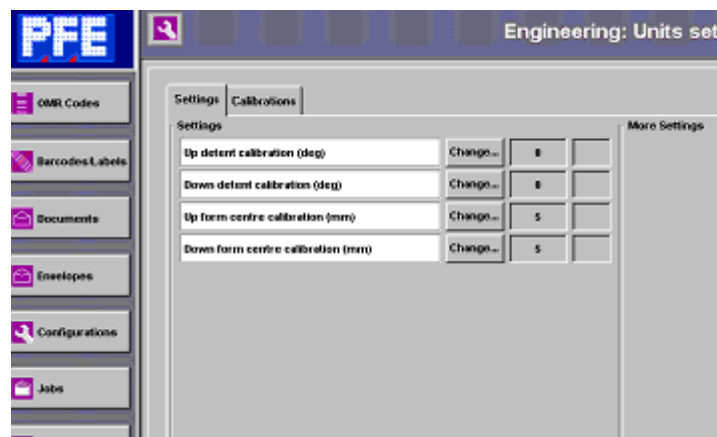

Fig. 3.6
2. Adjustment (see Fig. 3.6 below)